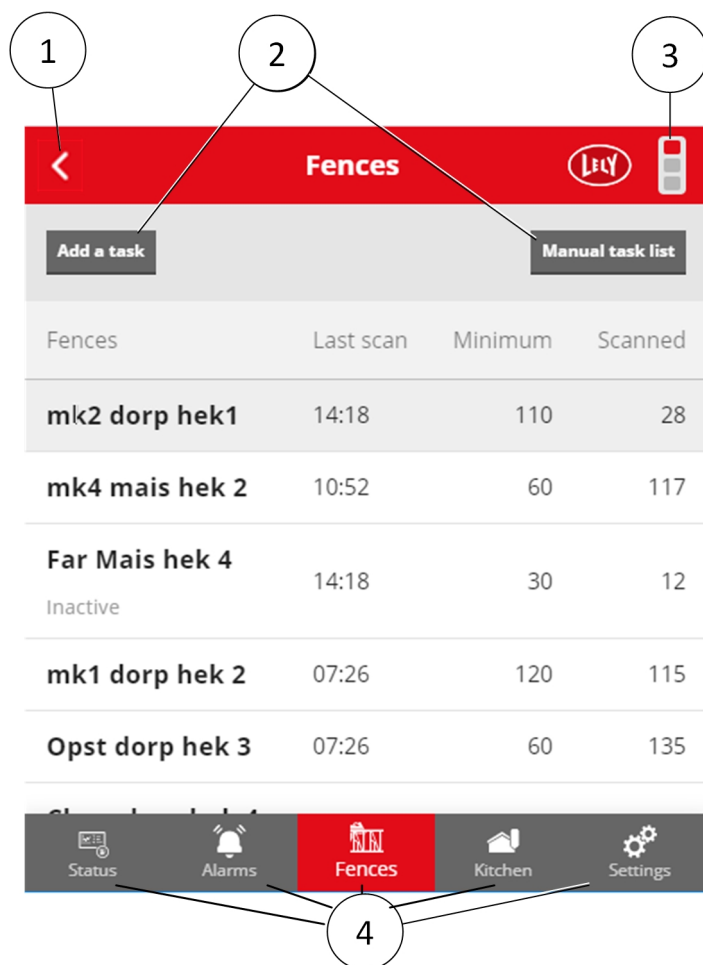

Figure 38. WebUI example of a page
The webpage displays information and has several buttons. The buttons (4) (see figure 38 on page 4-16) on the bottom of the screen give access to the main pages: **Status**, **Alarms**, **Fences**, **Kitchen** and **Settings**. There can be a button (2) in the screen that will show a screen or options to make changes in the settings. With arrow buttons you can either:
- Button ◀ (1) return to the previous page